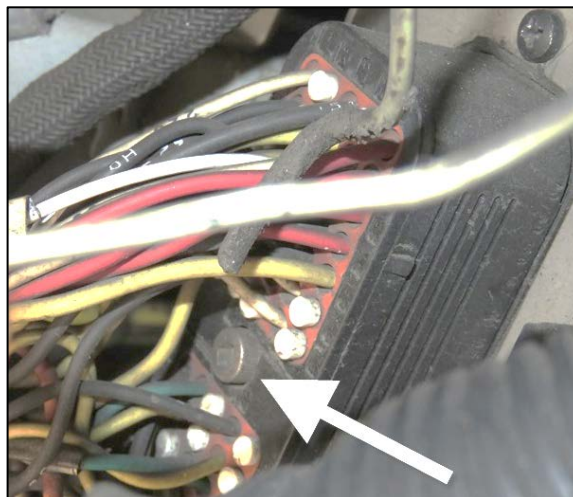

Figure 27
51. Disconnect the female connector C21 by loosening the center screw with a 4 mm Allen key wrench or socket (Figure 27).